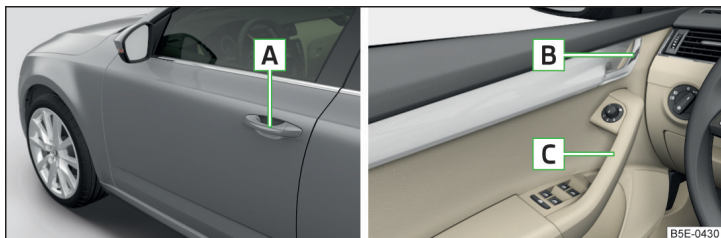

Fig. 35 Door handle/door opening lever
- › Pull door handle **A** » Fig. 35 on the door you wish to open.